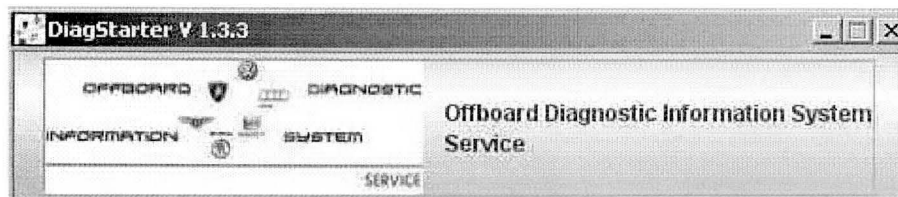

Figure 2
-When prompted, select Offboard Diagnostic Information System Service (Figure 2) and follow all on screen prompts